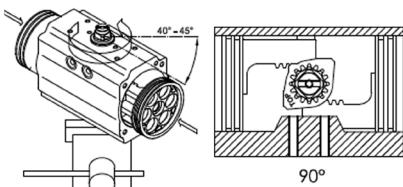

Fig. 14: Housing clockwise
- If installation is in the standard direction of rotation, design ST (closing clockwise), rotate the housing (Pos. 50) by 40-45° clockwise (see Fig. 14.),